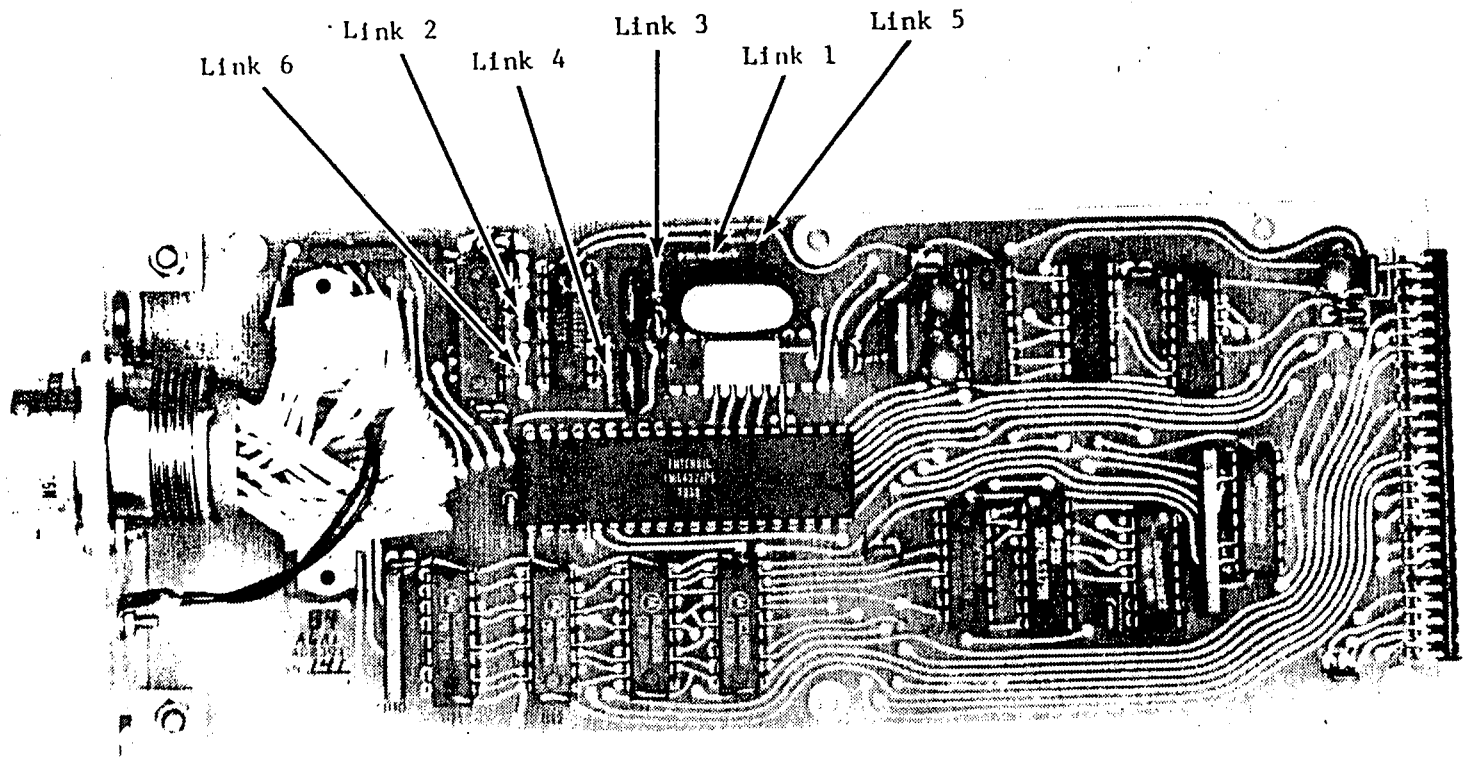

Figure 2-8. A6A1 Circuit Card Assembly Jumpers
5. There are a total of 6 different mechanical links located on the A6A1 circuit card assembly that must be installed according to the interface to be used. Table 2-2 lists the mechanical links required for each interface. Use a low wattage soldering iron to install or remove the links as required. Refer to Figure 2-8 for the location of the links.